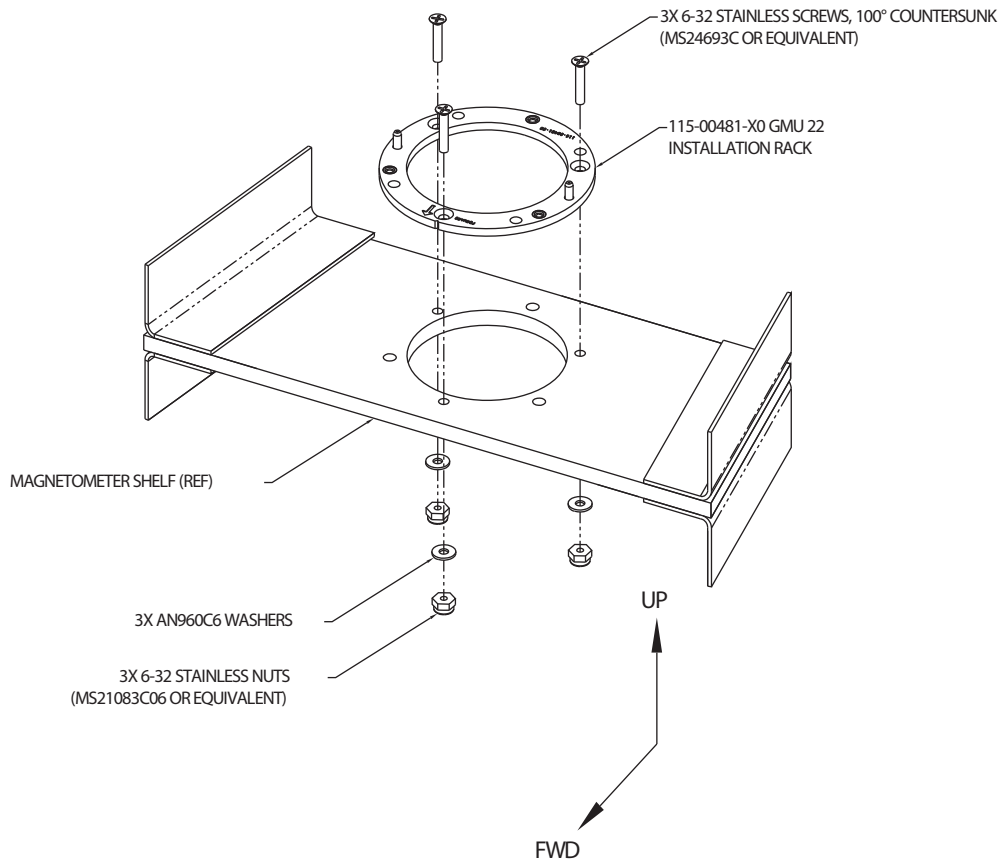

Figure B-27 Assembly Of GMU 22 Installation Rack To Magnetometer Shelf
7. Assemble the GMU 22 Installation Rack to the magnetometer shelf as shown in Figure B-27.